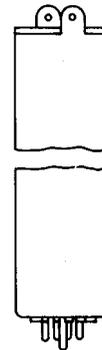

Fig. 8—434A Plug
2.08 434A: The 434A plug (Fig. 8) consists of a metal can equipped with a KS-19080, L1 plug. Terminals 1 and 19 are internally strapped, and terminals 5 and 20 are internally strapped. The 434A plug is used in the J98615BJ Repeater Mounting shelf for shorting out filters or equalizers.